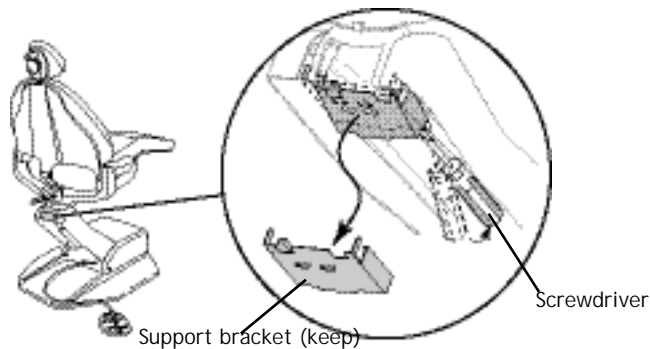

Figure 5
3. Remove the support bracket using a large screwdriver (see Figure 5). Set it aside.